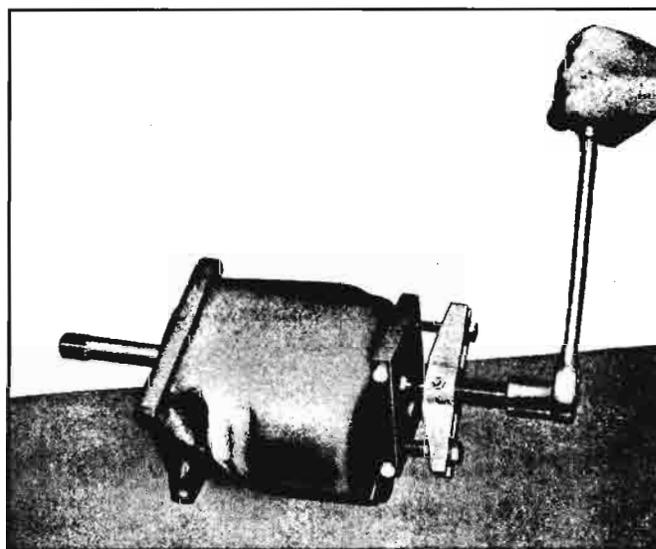

Fig. 6D-33—Removing Clutch Gear Bearing with Puller J-8880
5. Move 1-2 shift fork (fig. 6D-31) into second gear (full forward), then remove roll pin securing fork to shaft with a pin punch. Remove shift fork and shaft by tapping shaft out of case in either direction.